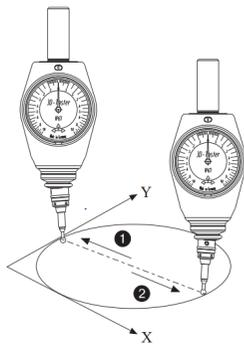

Fig. 9
---Place the 3D tester probe into the bore and proceed along the X-axis until the probe contact with workpiece and the pointer points "0" (Fig. 9).